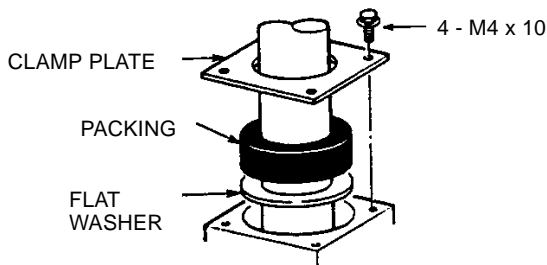

Figure 6-9 Passing the signal cable through the antenna housing
5. Connect the lead wires to RTB-9100 in the antenna housing by referring to the Interconnection Diagram. Fasten the ground washer at the bottom of the antenna housing as shown in Figure 6-9.